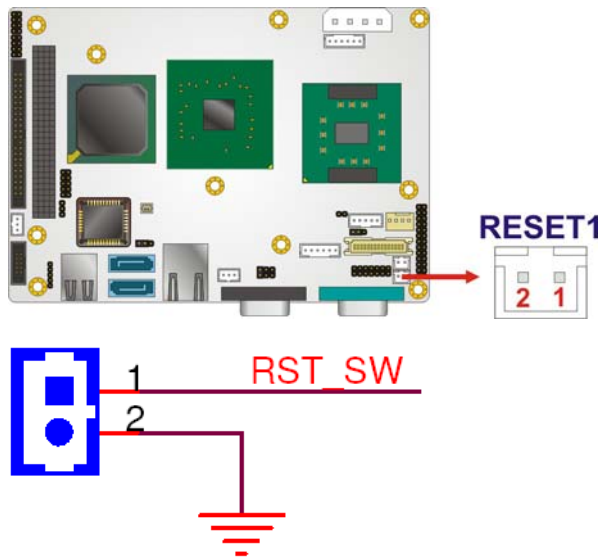

Figure 4-18: Reset Button Connector Locations
- CN Location:** See **Figure 4-18**